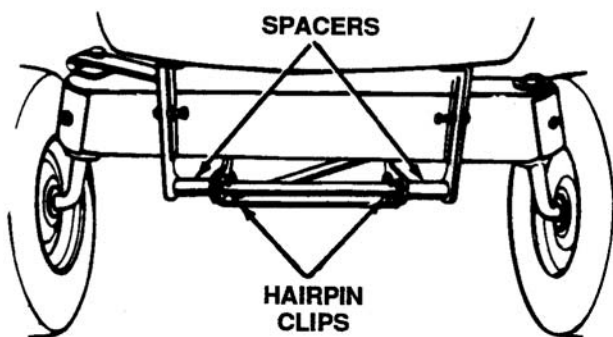

Figure 8-25. Disassembling Cross Bar
7. Disassemble front cross bar from the tractor by removing two hairpin clips. Use the cross bar to attach deck stabilizers, diagonal brace and two spacers to tractor frame, using the rearward set of holes. Secure with two hairpin clips just removed. See Figure 8-25.